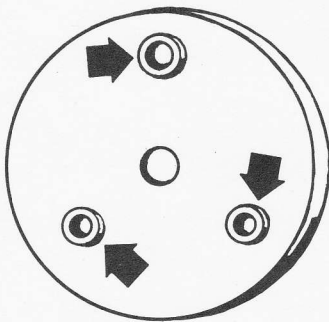

Fig. 1
2. The mounting holes in seat frame for internal gear housing are drilled to close tolerances. Remove any burrs that might have occurred due to previous misalignment. Also check mounting lugs (See Fig. 1) on back of internal gear housing for distortion or burrs. Correct as required.